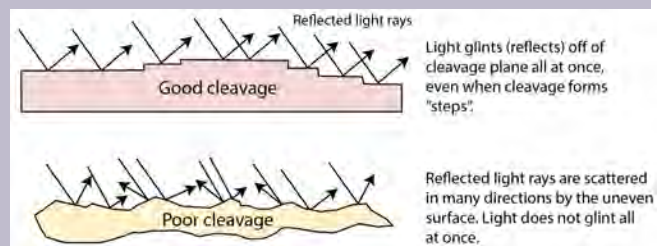

Figure 2.3.8: Examples of a mineral with good (top) and poor (bottom) cleavage planes. [Image description]
Remember that cleavage planes are controlled at the molecular level by the crystal lattice, and so they tend to repeat themselves at different depths throughout the mineral. Planes that are parallel are considered the same direction of cleavage and should only count as one. If you are unsure whether the flat surface you are examining is a cleavage plane, try rotating the mineral under bright light, like a desk lamp. If the mineral has cleavage, you will generally find that all of the cleavage surfaces of a given cleavage direction will glint in the light simultaneously (Figure 2.3.8). Crystal faces will also glint under the light, but do not repeat themselves at depth throughout the mineral. In some minerals, crystal faces have **striations**, as shown by the faint parallel lines on the faces of the quartz crystal in Figure 2.3.4a. Finally, if you have identified more than one cleavage plane or direction
Figure 2.3.8 image description: As you rotate a mineral with good cleavage (top) under a light source, you will see the light glint back at you all at once, as the rays of light are reflected by the mirror-smooth cleavage plane. Even if the cleavage plane causes the mineral to break along “steps”, you will still see a single glint off of these steps all at once. Minerals with poor cleavage (bottom) do not glint all at once, as their cleavage planes are rough and uneven, causing light rays to scatter. [Return to Figure 2.3.8]
- Figure 2.3.8: © Siobhan McGoldrick. CC BY.